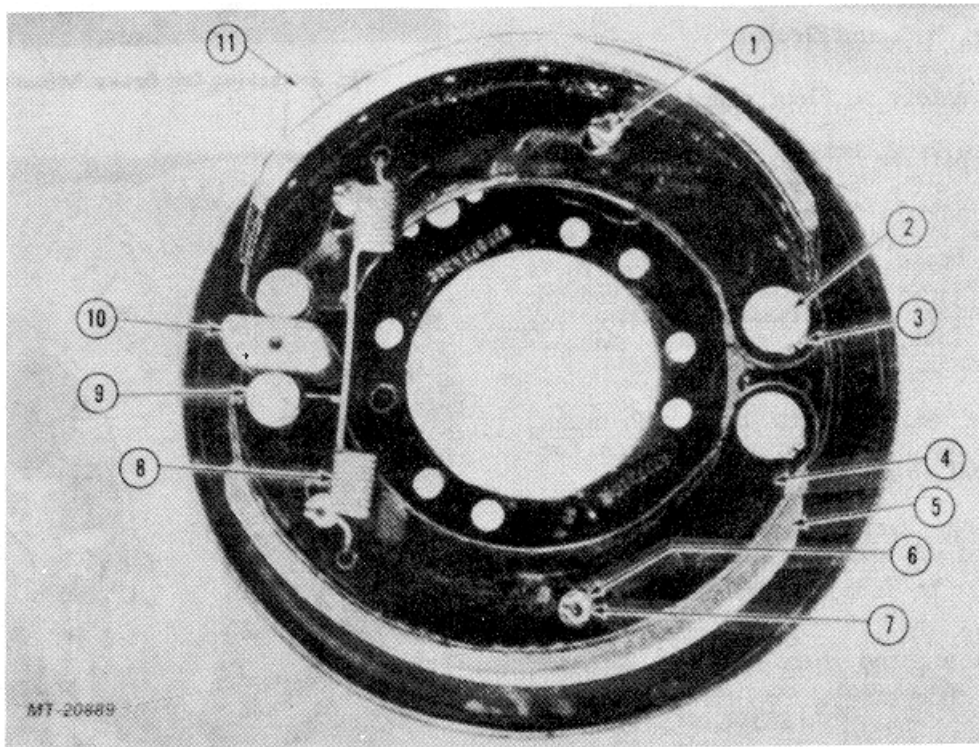

Fig. 6 Wagner Foundation Brake Group with Backing Plate
**Brake Groups with Backing Plate (Fig. 6)